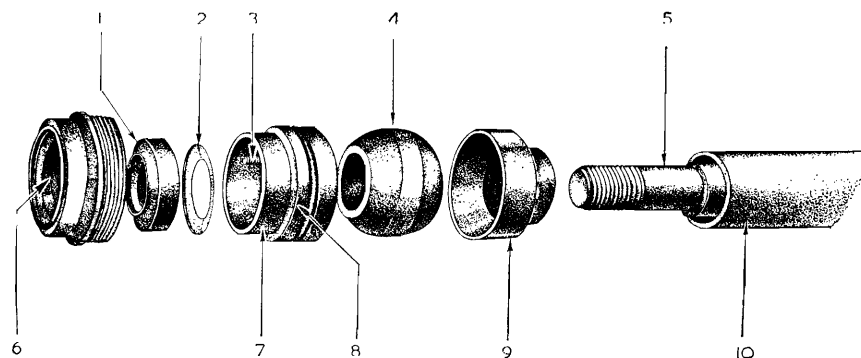

Fig. 21. Front suspension gland and related parts
- (1) Unscrew the self-locking nut which retains the upper bearing assembly, using tool A2/T 5433. Remove the upper thrust bearing assembly, together with the rubber block. Remove the front spring; if necessary, compress the spring and remove the spring clips.
- (2) Remove the piston shroud; remove the filler plug and pump the fluid out of the suspension unit by moving the piston rod up and down.
- (3) Unscrew the piston rod gland cap with tool A2/T 55462 after the stake locks have been bent up.
- (4) Remove the gland and related parts (see Fig. 21).
- (5) Remove the compression valve and compensator valve assembly from the cylinder, following which the piston and piston rod can be withdrawn.
- (6) Remove the piston valve assembly and the piston valve spring from the piston rod. The adjustment of the piston valve is also sealed at the time of assembly and should not be interfered with.
- (7) If necessary, remove the track-rod arm from the suspension unit.
- (8) Clean and inspect all parts, and replace those that are worn or otherwise damaged.